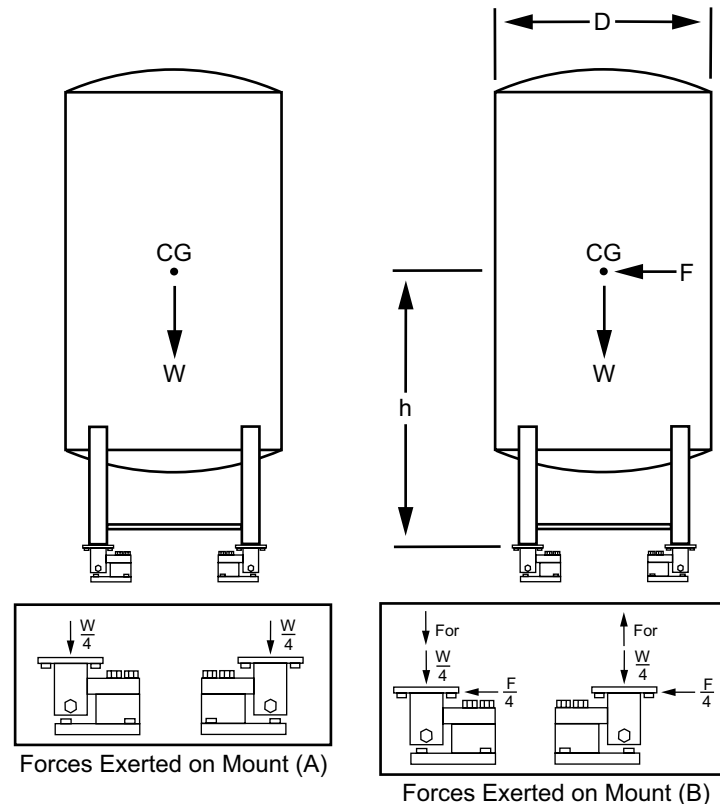

Figure 17-1. External Forces on a Weigh Vessel
In general, these forces act horizontally at the center of gravity (CG) of the weigh vessel. Figure 17-1-A illustrates a four-legged vertical cylindrical vessel and the forces acting on it in the absence of wind or seismic forces. W is the vessel's weight (an empty and full vessel should be considered separately, as either one may be the limiting case), and it acts through the vessel's center of gravity. Assuming that the four legs are arranged symmetrically, then each leg will exert a force of $1/4W$ on each mount.
Figure 17-1-B illustrates the same vessel with the addition of a horizontal force F (the result of wind or seismic activity). The vessel exerts a horizontal force of $1/4F$ on each load cell mount. Also, there is an additional force of F_{0T} acting on the left-hand side load cell mounts, which means that each is now carrying a load of $1/4W + F_{0T}$. On the right-hand side load cell mounts, a force of F_{0T} is also induced as a result of F , however, this force is in the opposite direction to the existing $1/4W$ and the total force here is reduced to $1/4W - F_{0T}$. Therefore, the load is being transferred from the mounts on one side of the vessel to those on the other. The load cell capacity selected must be capable of withstanding this additional force for the extremes of wind or seismic forces expected. If F was increased to where F_{0T} equaled $W/4$ then there would be zero load on the right hand mounts and the load would have doubled to $W/2$ on the left-hand mounts. Further increase in F will cause the vessel to lift up on the right-hand mounts and may, in the extreme case, cause the vessel to tip.
The relationship between F_{0T} and F may be stated as follows for the vessel shown in Figure 17-1: